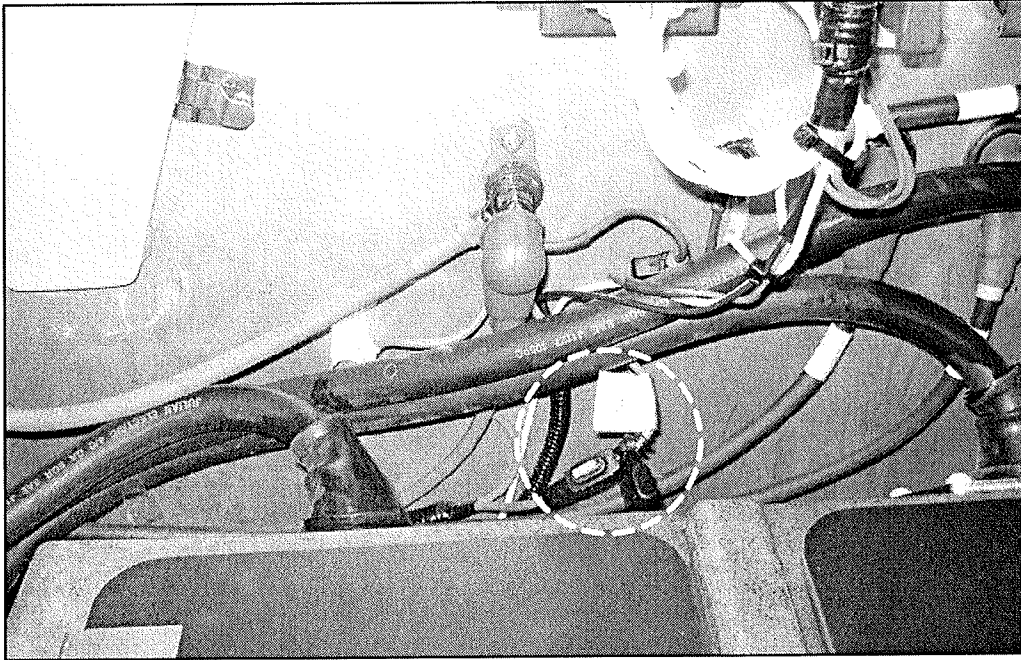

Figure 2.
5. Locate the inline fuse routed from the 24V HOT power stud block with the decal labelled either FUSE5 15A MAX, or 30A MAX. BATT HOT (refer to Figure 2).